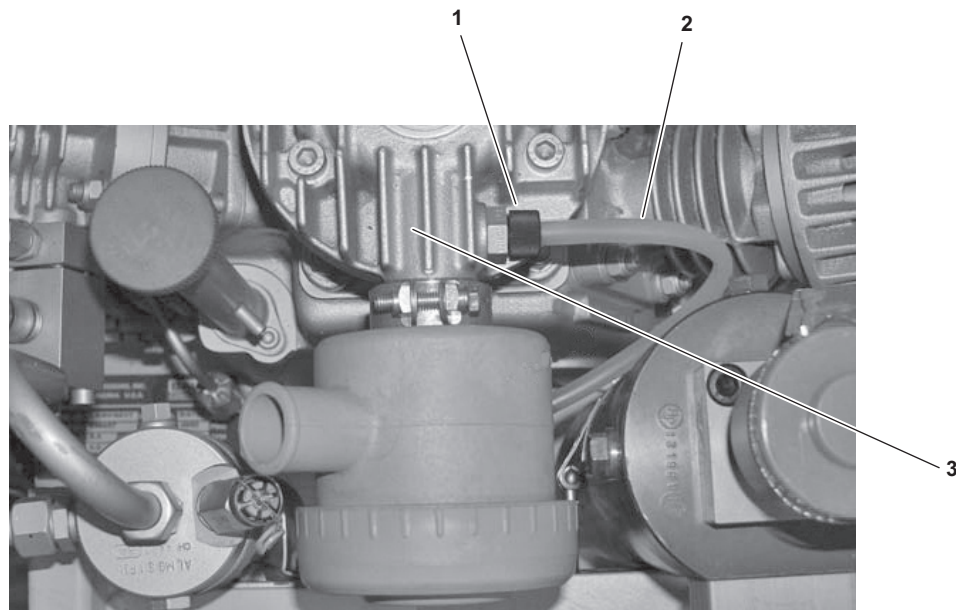

Figure 6-37. Crankcase Vent Feedback Line and Screw Cap
- (1) Ensure that the compressor and diesel engine are shut down.
- (2) Remove the belt guard IAW the procedure in paragraph 6.4.1.b.
- (3) Vent the crankcase by turning the black plastic screw cap (figure 6-37, item 1) on the crankcase vent feedback line (figure 6-37, item 2) CCW until it is loose. Remove the crankcase vent feedback line from the cylinder head (figure 6-37, item 3).
- (7) Connect the crankcase vent feedback line (figure 6-37, item 2) by pushing it on the cylinder head (figure 6-37, item 3). Secure by tightening the black plastic screw cap (figure 6-37, item 1) and turning CW by hand until snug.
- (8) Install the belt guard IAW the procedures in paragraph 6.4.1.c.
- (9) Check the compressor oil IAW paragraph 2.3.3.